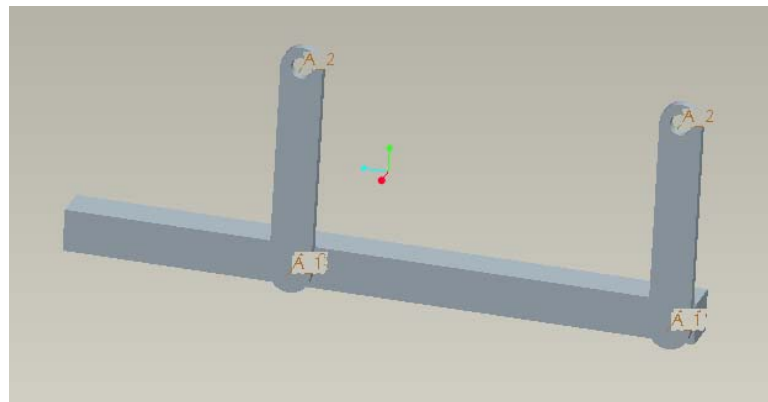

Figure 6
3. Placing the second again as shown in figure 6 using the same instructions outlined in 2.